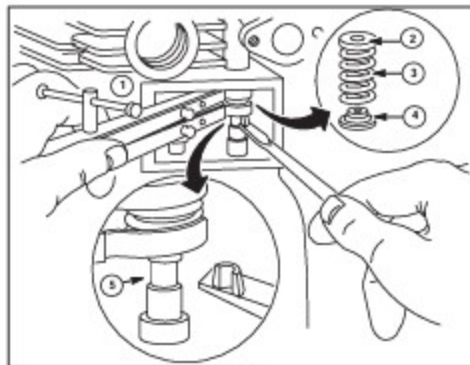
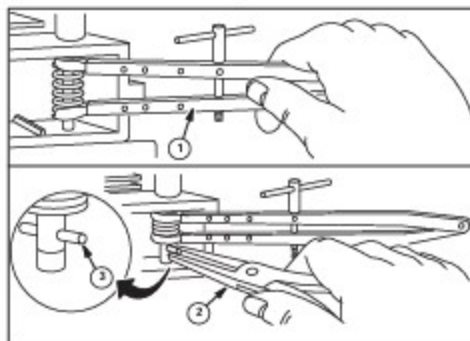

Fig. 6
Fig. 7
1. Use Valve Spring Compressor, Tool #19063, (see [1], Figs. 6, 7), adjusting jaws until they just touch the top and bottom of the valve chamber. Push the compressor in until the upper jaw slips over the upper end of the spring, Figs. 6, 7. Apply grease where shown (6). Inset, Fig. 6 – Cup (2), Spring (3), Collar (4), Valve (5).
3. Remove collars (4) or retainers, Fig. 6, pull pins (3) with needle nose pliers (2), Fig. 7, and lift out valve. Pull out compressor and spring.